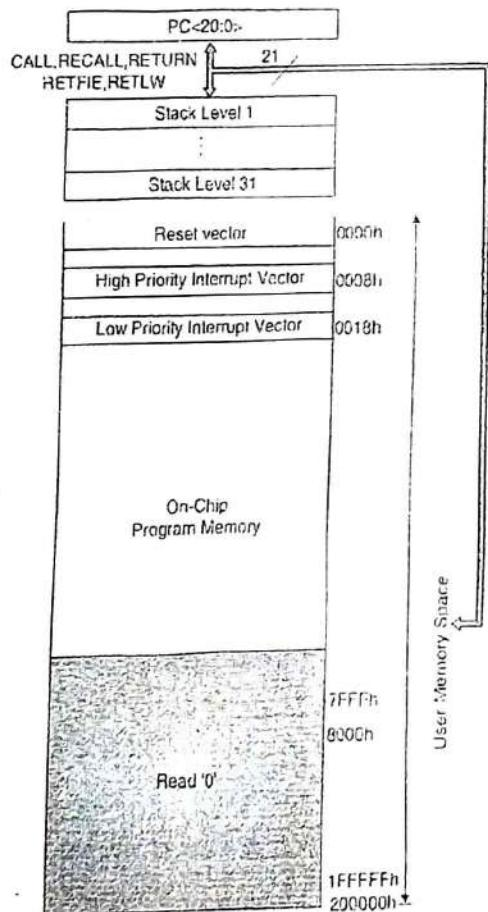

Fig 1.13.4 : Program memory space of PIC18
- This return address stack is not a part of the program memory space. The program memory map is illustrated in Fig. 1.13.4
- As shown in Fig. 1.13.4, the address 0000 H is assigned to the reset vector, which is the starting address after reset. The address 0008 H onwards is the address of the high-priority interrupt service routine.